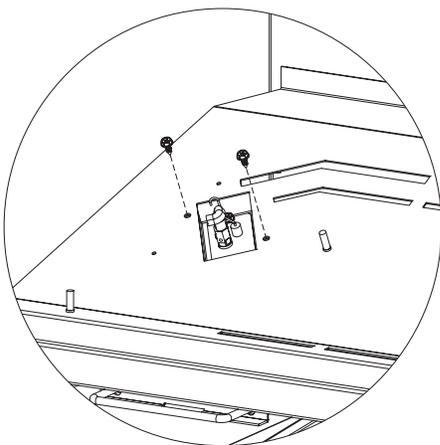

Figure 3
4. Remove (2) screws holding pilot assembly to burner pan. This will allow pilot assembly to drop. **See Figure 3.**